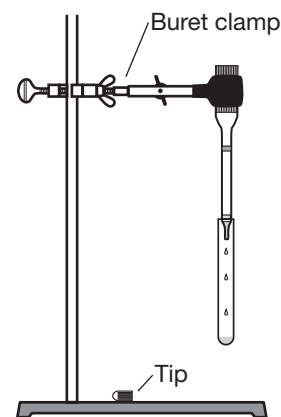

Figure 2.
17. As the first pigment band begins to exit the tip of the column, place the appropriate test tube underneath the column to collect the solvent containing this pigment (see Figure 2). As soon as the band has completely exited the column, remove the test tube, stopper it and set it aside. Record observations.